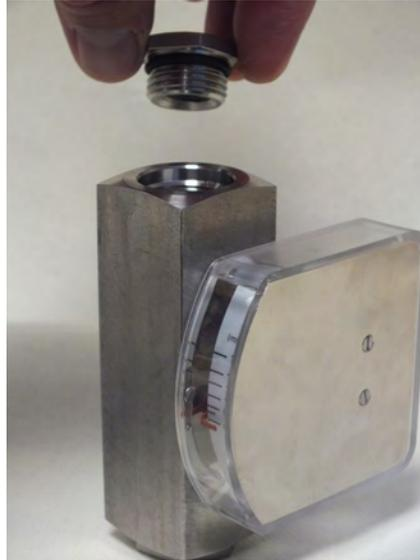

Fig. 59: Insert process connection (outlet)
- 10.** Insert the process connection (outlet) into the device body (outlet) (Fig. 59)